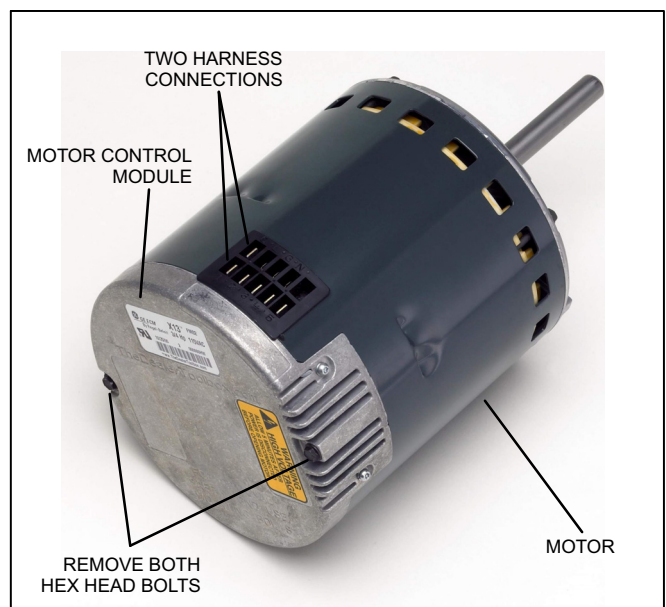
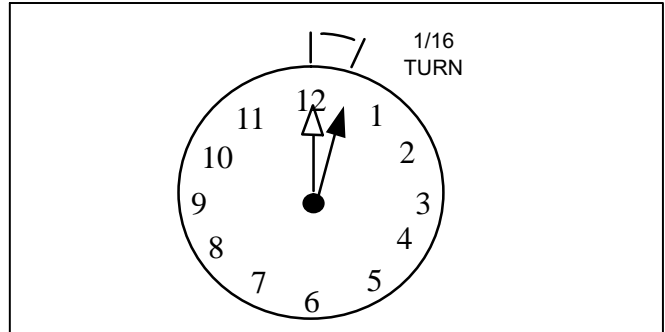

Figure 1. Motor Control Module (Rear View)
Figure 3. Torque Hex Head Bolts
4. Remove the two hex head bolts securing the motor control module to the motor (see figure 1).
3. Mount new motor control module to motor using two hex head bolts removed in figure 1. Torque bolts to 22 inch pounds or 1/16th clock turn as exemplified in figure 3.